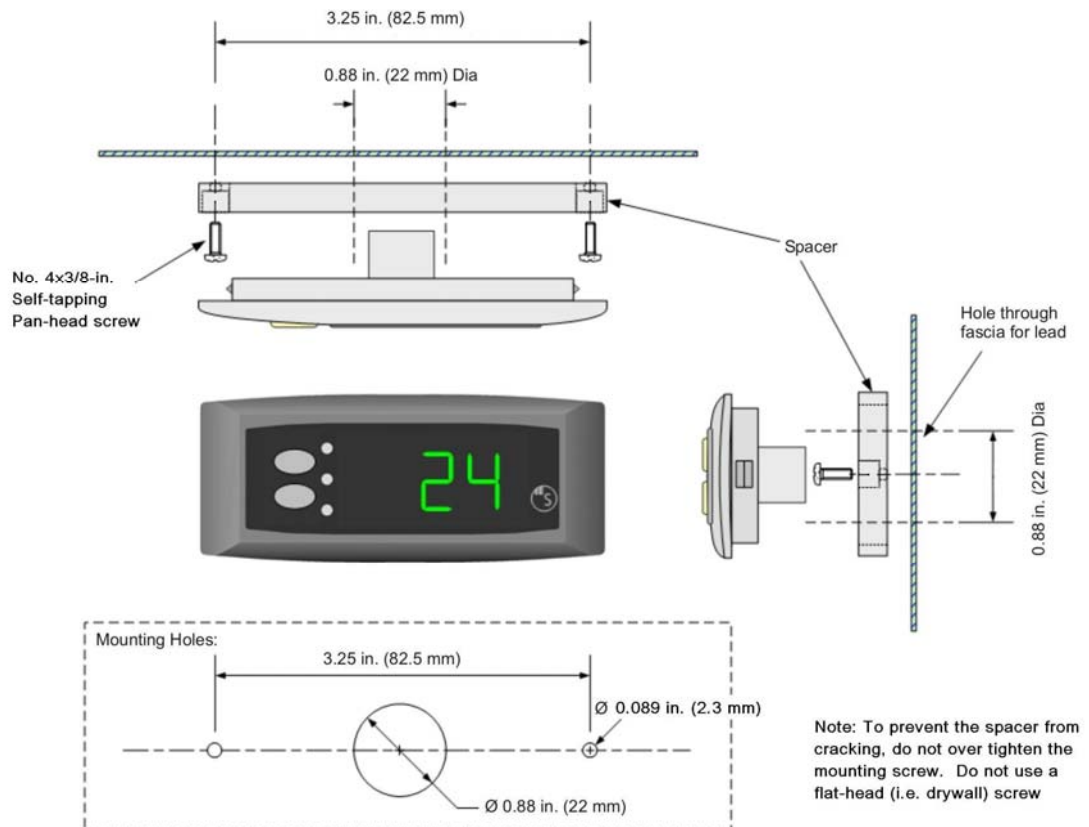

Figure 8. Surface-mounting the display
- Surface mounting (Figure 8)
If the display must be mounted in a location where making a rectangular cut out is impractical, the display can be surface-mounted. This method requires the use of a plastic spacer. The following procedure should be used. Refer to Figure 8, as necessary.